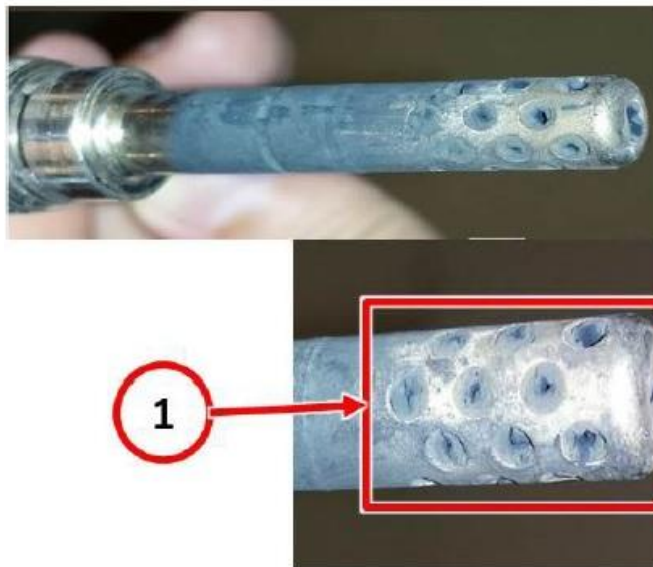

Fig. 1 EGT Sensor Bank 1 Sensor 1
12. Inspect the sensor body and probe for any signs of damage or excessive soot. See (Fig. 1).